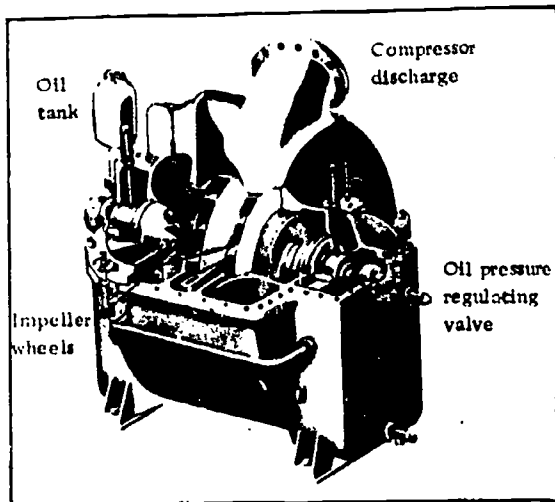
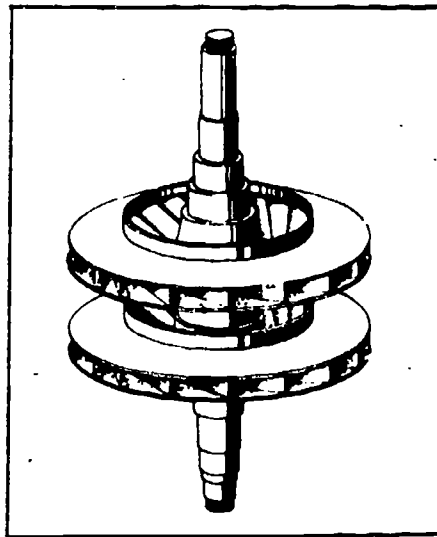

Fig 2-4. Cutaway view of an enclosed centrifugal compressor.
Fig 2-5. Impeller from a centrifugal compressor.
d. Centrifugal compressor (fig 2-4). Centrifugal compressors are used in large air-conditioning systems. These systems handle large volumes of refrigerant gas at low pressure. Centrifugal compressors operate on the principle of centrifugal force to compress the gas and discharge it to the system. The refrigerant is fed into a housing where there is a rotating disk complete with impeller blades (fig 2-5). The impeller rotates at a high speed forcing the gas out against and around the housing to the discharge port. Because the efficiency of these compressors will vary with their speed, they are usually run at speeds much higher than the speed of their drive motors. Therefore, centrifugal compressors are usually equipped with a step-up gear train.